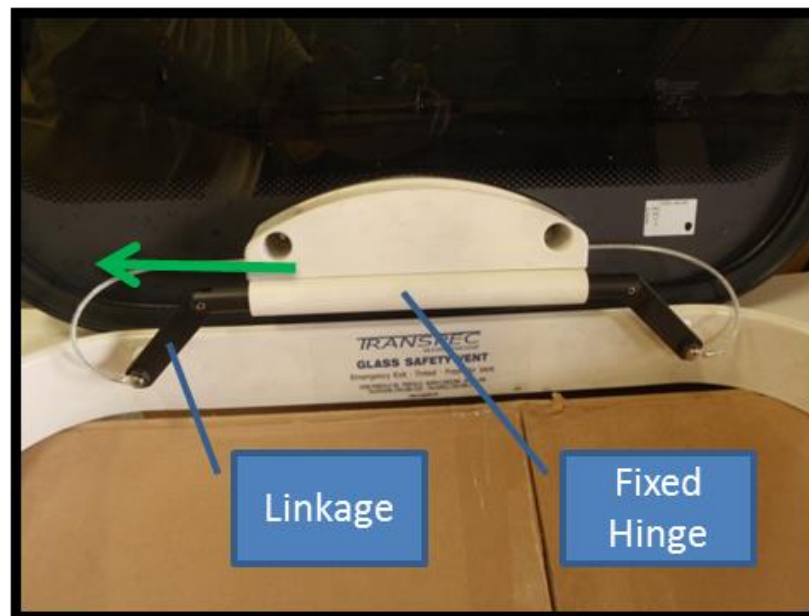

Figure 13: Remove and retain the linkage from the plastic fixed hinge.
4. Slide the unsecured linkage out of the plastic fixed hinge as illustrated in Figure 13. This linkage will be reused.